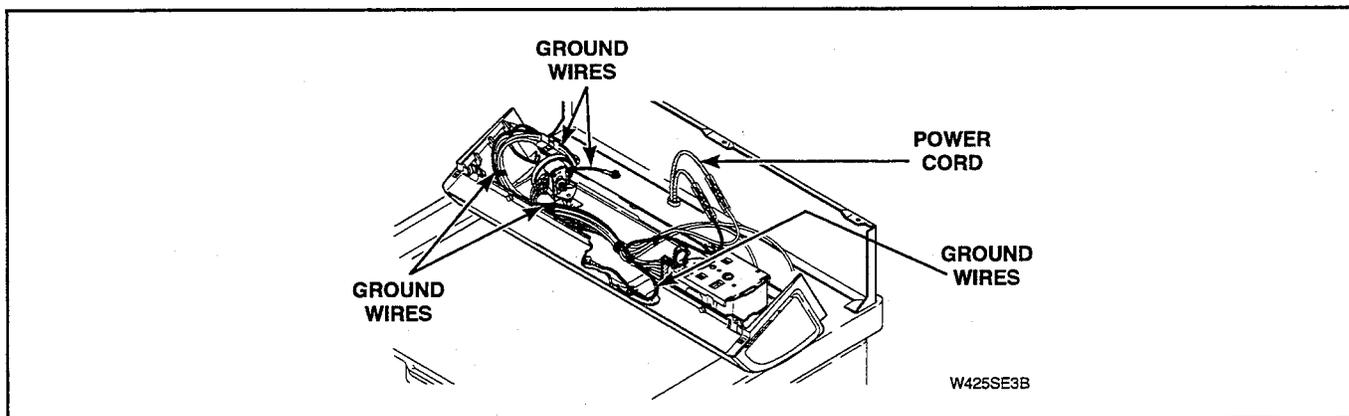

Figure 4-2
2. POWER CORD TO CABINET TOP, CABINET TOP TO CONTROL HOOD MOUNTING BRACKET, PRESSURE SWITCH MOUNTING BRACKET AND GROUND TAB ON GRAPHICS PANEL. See Figure 4-2.